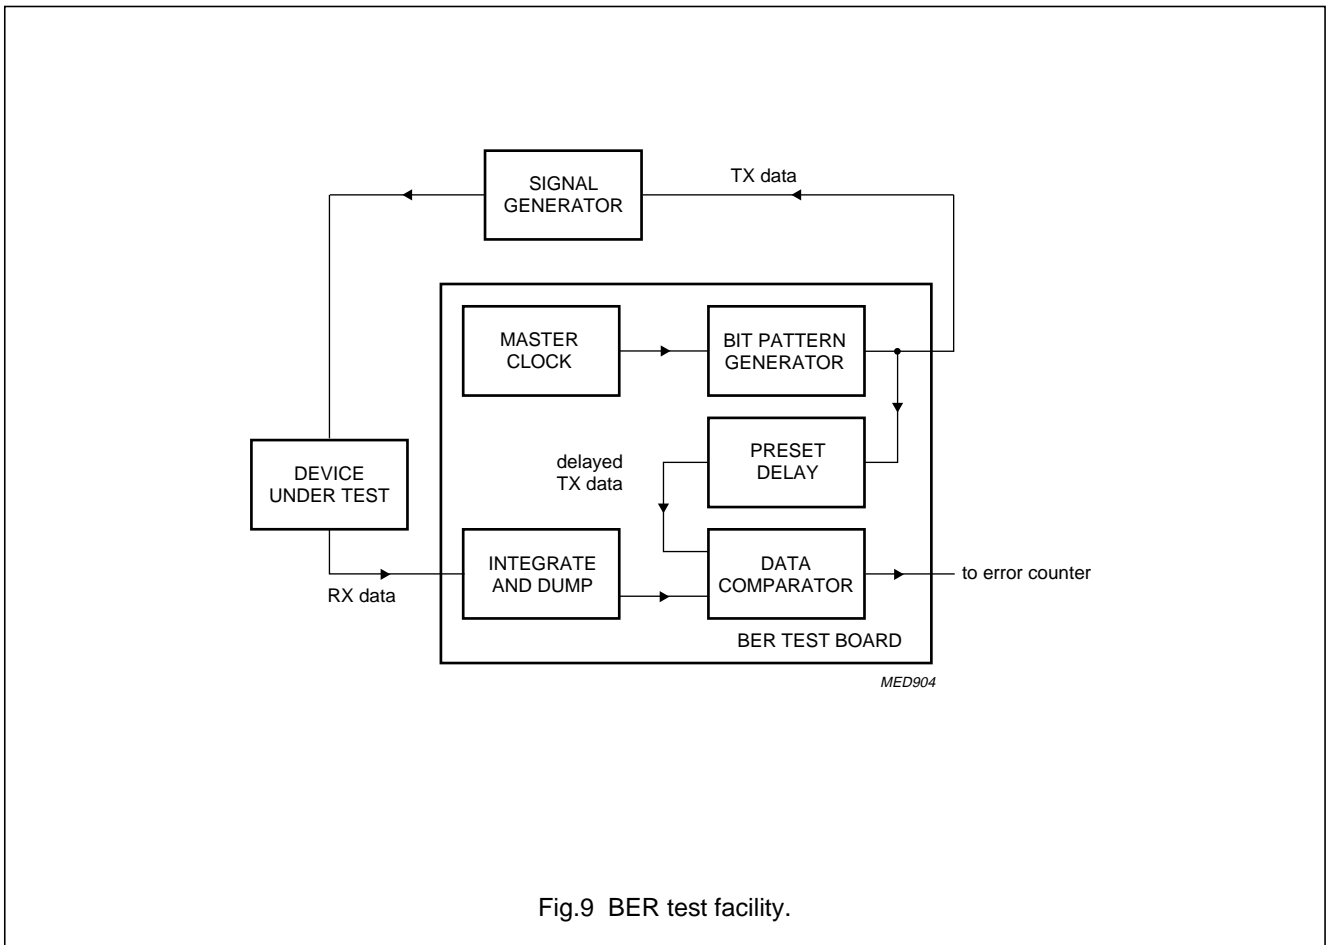

Fig.9 BER test facility.
- P_{ref} is the maximum available power at the input of the test board. The Bit Error Rate (BER) is measured using the test facility shown in Fig.9.
- (2) For BER test facility see Fig.9.